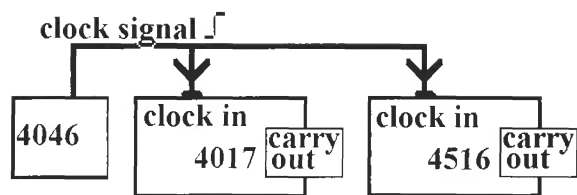

Figure L41-9
1. The 4046 clocks the 4017. Now connect the 4017's carryout to the clock input of the 4516 as shown in Figure L41-9. Think about it. Try to explain what is happening.